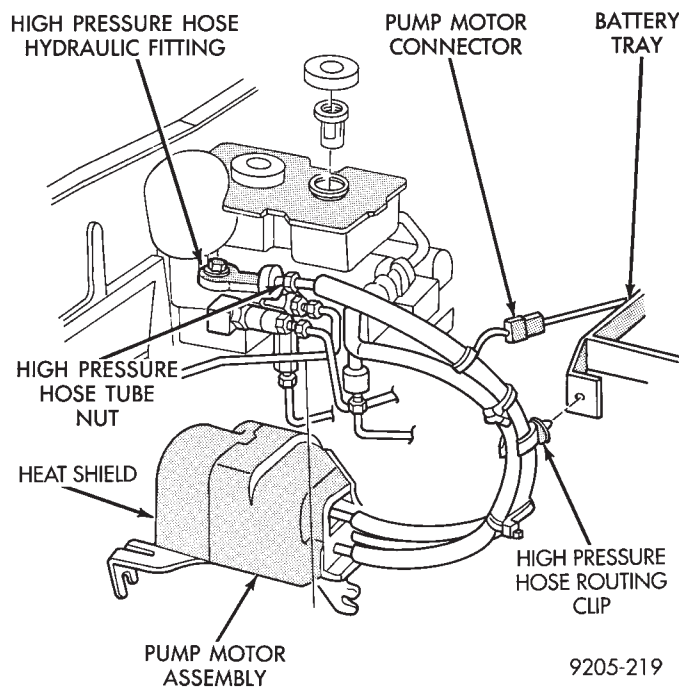

Fig. 7 Brake Tube and Hose Routing at Hydraulic Unit
(2) Remove fresh air intake duct and air cleaner from vehicle.
(3) Remove the windshield washer fluid bottle from the vehicle.
(4) Disconnect all electrical connectors from the hydraulic assembly.
(5) Remove as much fluid as possible from the reservoir on the hydraulic assembly.
(6) Remove pump high pressure hose fitting (Fig. 7) from hydraulic assembly.
(7) Disconnect pump return hose from steel tube. Cap the end of the steel tube.
(8) Disconnect the 4 brake tubes from the hydraulic assembly (Fig. 7).
(9) From under the instrument panel, position a small screwdriver between the center tang on the retainer clip and the pin in the brake pedal. Rotate the screwdriver enough to allow the retainer clip center tang to pass over the end of the brake pedal
Then install all 4 brake tubes on the hydraulic assembly (Fig. 7). Torque the brake tubes to hydraulic assembly fittings to 16 N•m (145 in. lbs.).
(6) Install return hose on steel tube. Tighten the return hose clamp to 1 N•m (10 in. lbs.).
(7) Install high pressure hose to hydraulic assembly (Fig. 7). Tighten the hose, to hydraulic assembly fitting to 16 N•m (145 in. lbs.).